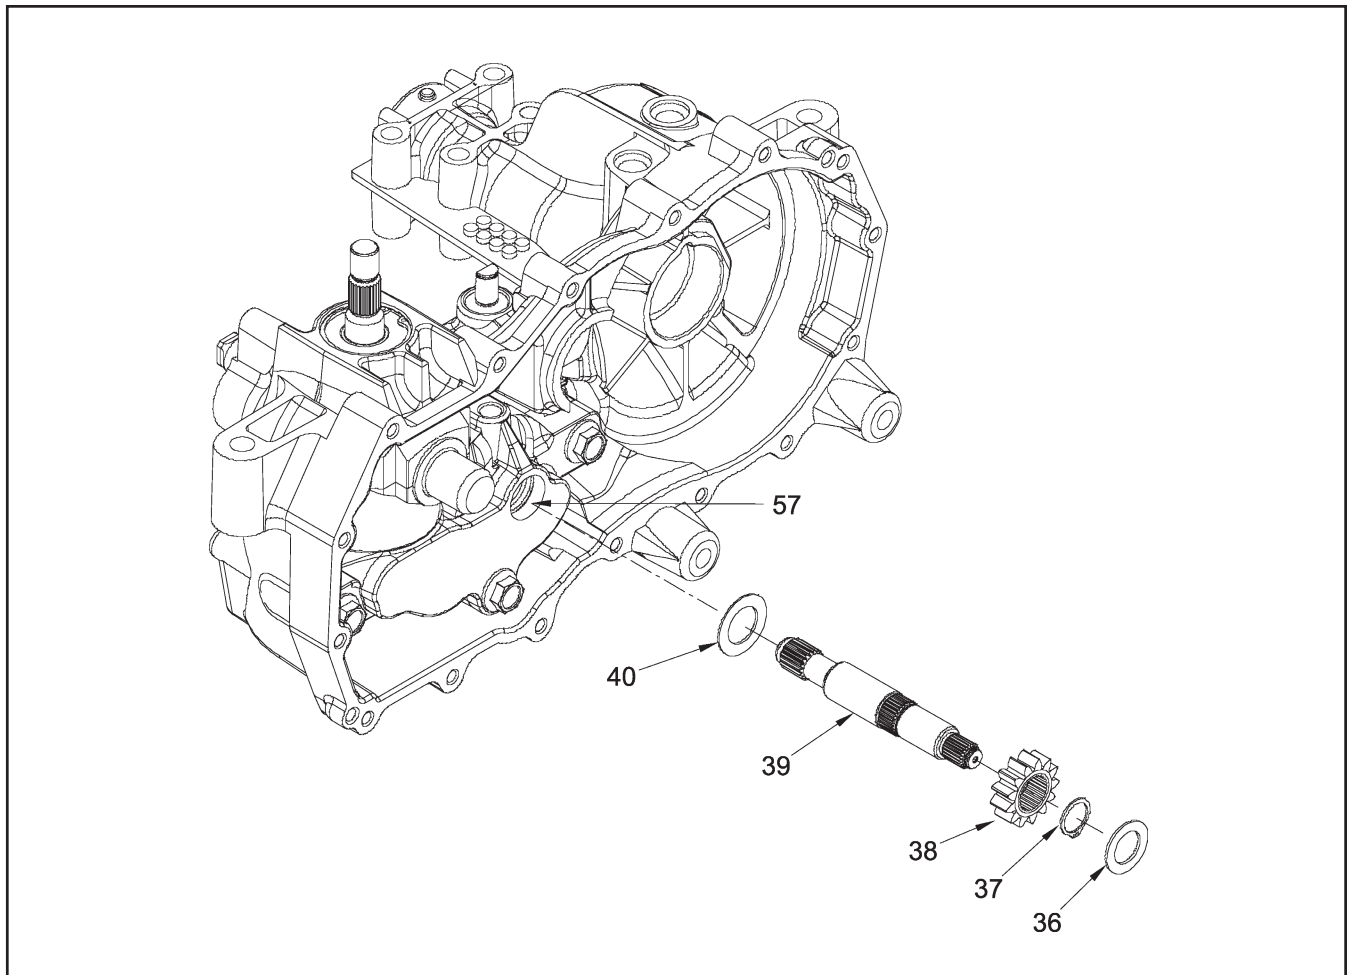
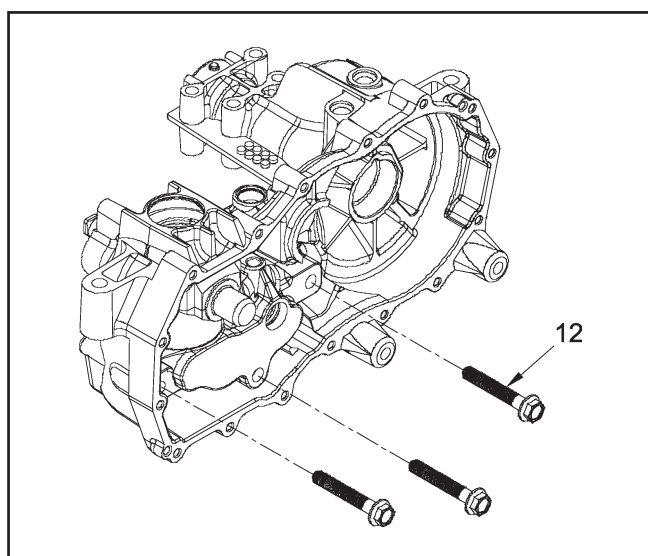
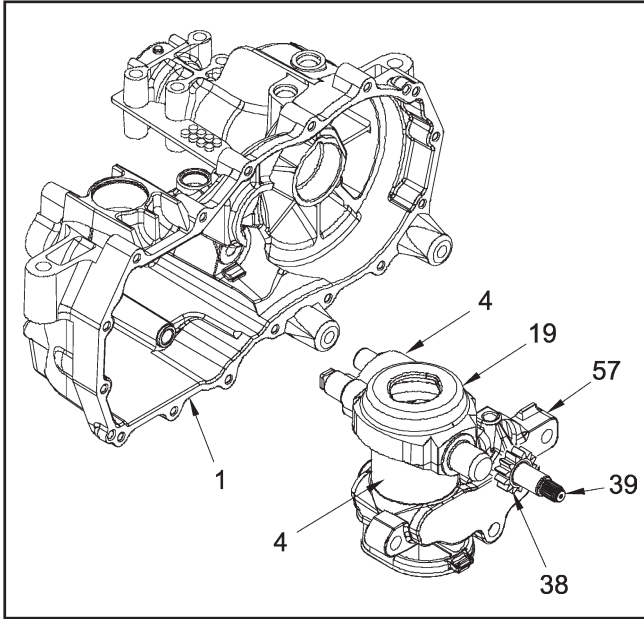

Figure 10. Motor Shaft
Figure 16.
Figure 20.
Refer to Figure 10.
12. **(See Figure 16)** Remove the center section mounting screws (12). NOTE: The center section is under motor block piston spring pressure. These screws are factory installed to 700 lb-in (80 Nm) and use an anaerobic thread adhesive. A breaker bar will be required at this step. Clean the internal threads of the mounting holes with compressed air.
6. **(See Figures 10 & 20)** Install the motor shaft (39), pinion gear (38) and flat washers (36 & 40) into the center section (57).
7. Assemble the motor block assembly (4) onto the motor shaft (39).
8. **(See Figure 20)** Install the motor shaft, center section and motor block assembly into the housing so that the motor block pistons contact the thrust bearing race. NOTE: Hold in place and insure all pistons are still positioned correctly in the cylinder bore by confirming spring bias against the center section.
9. **(See Figure 16)** After applying thread adhesive, insert the center section mounting screws (12) while holding downward pressure on the center section assembly (57, Figure 20).
10. Tighten the center section mounting screws (12) to the proper torque. Refer to Table 6. NOTE: The center section must be fully seated into the pilot bore before the screws are tightened. The center section will not self